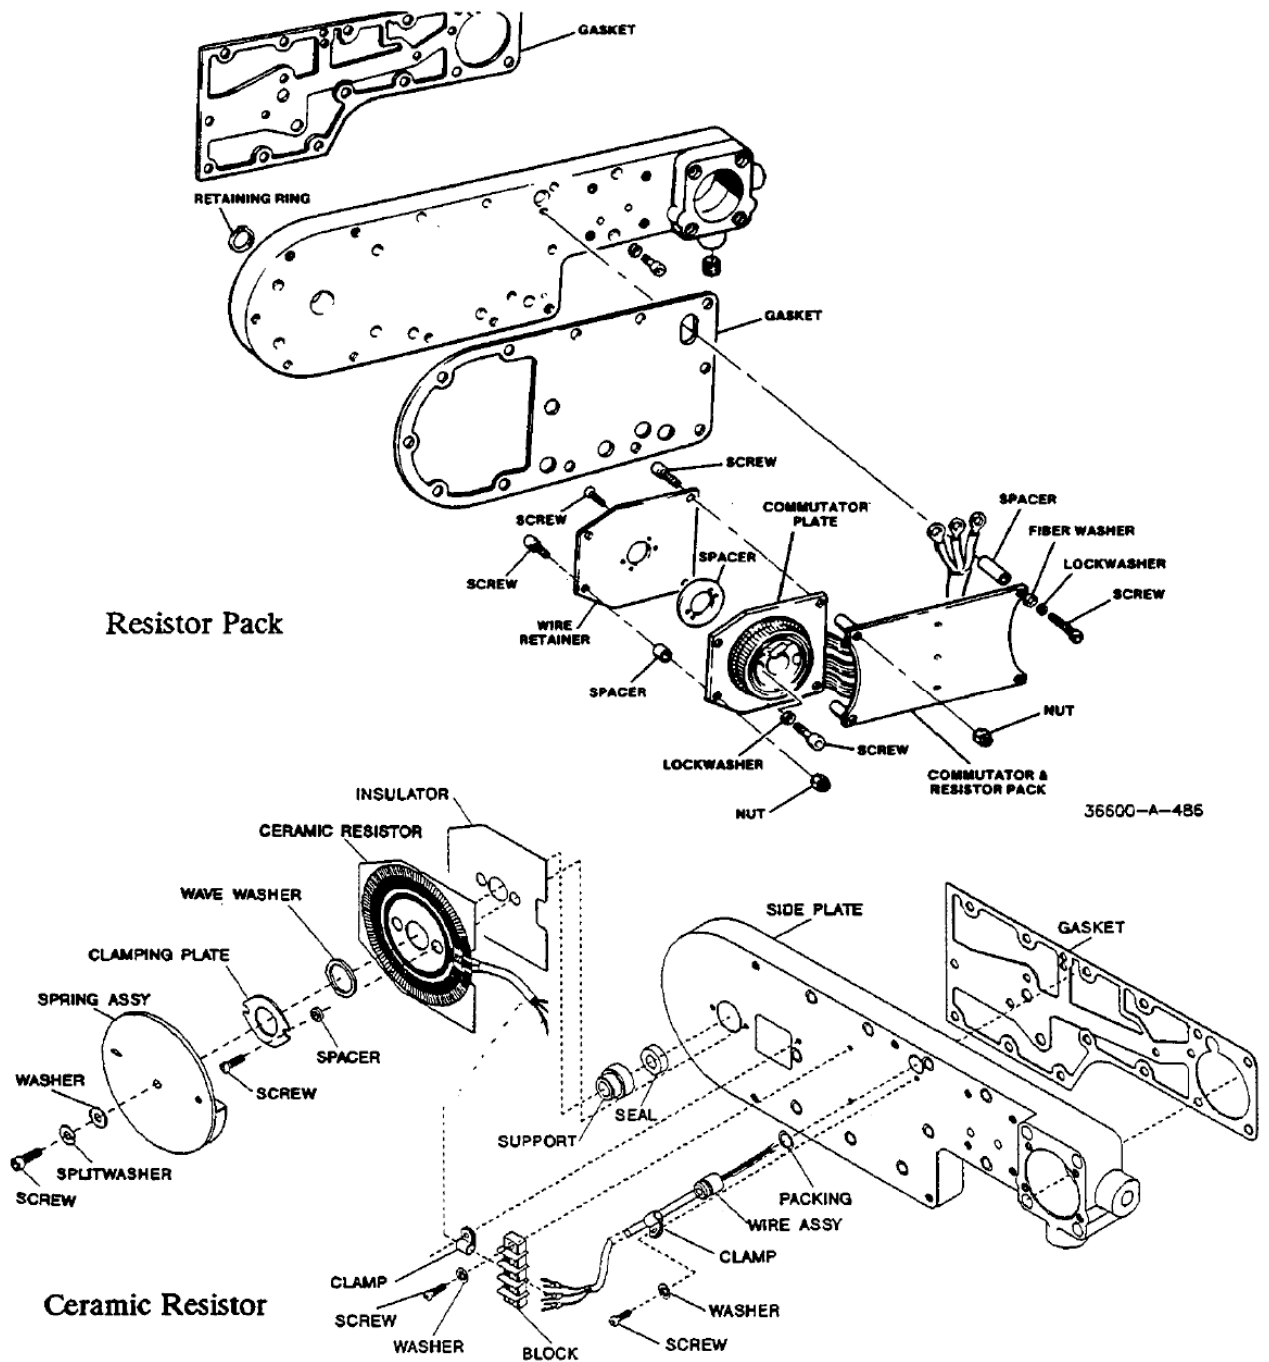

Figure 5-45. Resistor Pack and Side Plate Assembly
18. Attach resistor pack to side plate. First, use 2 screws through commutator, but do not tighten. Second, in order as shown on Figure 5-45, secure right-hand side of resistor pack to column. Tighten screws on left-hand side in commutator.